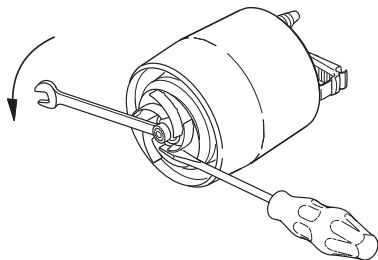

Fig. 13 How to remove the impeller
8. Unscrew the nut (cross width 13 mm) from the motor shaft. Use a screwdriver to prevent the impeller from turning. See fig. 13.